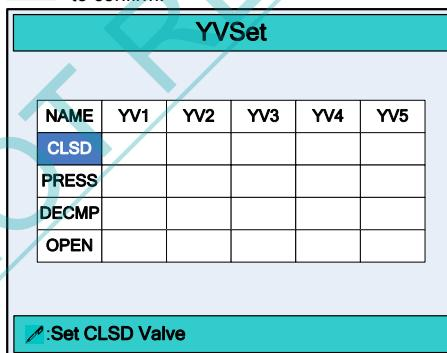

Figure 3-9 The YVSet page
On the **SYS PARA**. page, move the cursor to parameter **4.YV SETTING** (or press the number key 4), and press to enter the **YV MONITOR** page, as shown in Figure 3-9.